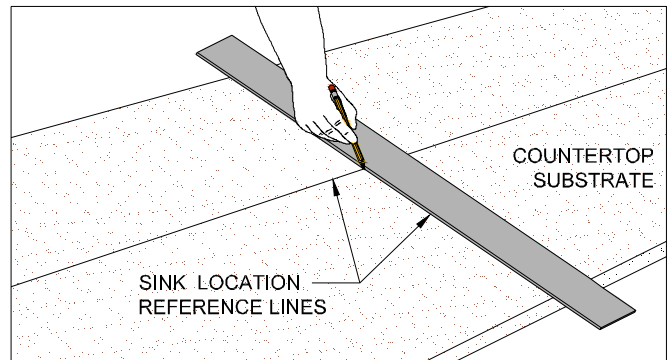

Figure 14A
- Draw the sink location on the substrate with a vertical and horizontal centerlines. (FIG. 14A)